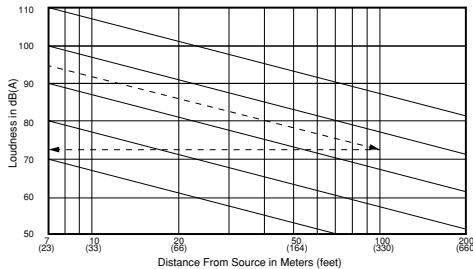

Figure 11.2. Decreases In Loudness As Distance Increases (Free Field)
You can use Figure 11-2 to find out the noise level of a Gen.Set at a distance. For example as shown at the Figure 11-2 , if the Gen.Set noise level is 95dB(A) at 7